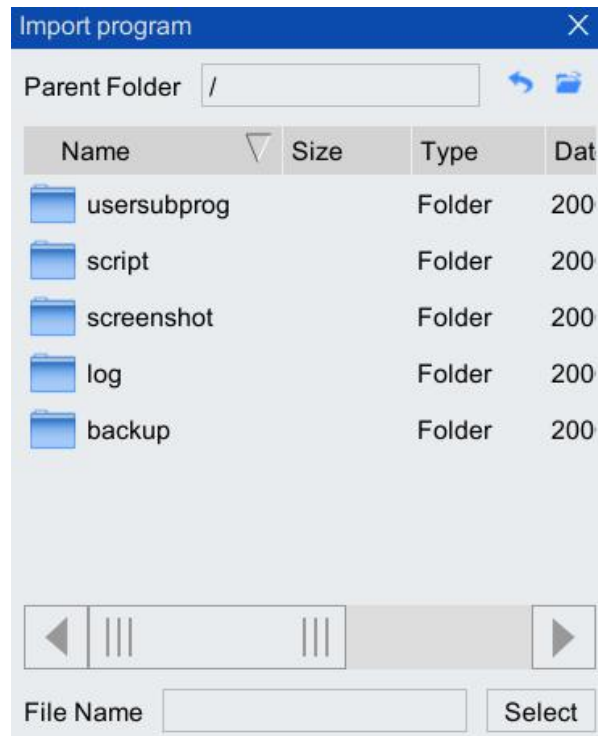

Figure 7-7"Import Program" interface
- Step1. In the main interface of the teach pendant, click "File > Restore Backup > Program File" option, and the "Import Program" list box as shown in Figure 7-7 will pop up.